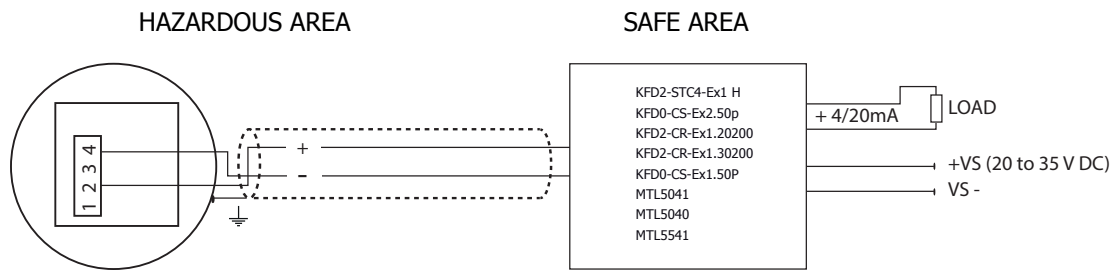

Figure 7 *Hazardous Area Connection*
**Always connect the 4...20 mA return signal to a suitable load (see *Figure 7*) before the power is applied. Without this connection, the transmitter may be damaged if allowed to operate for prolonged periods.**